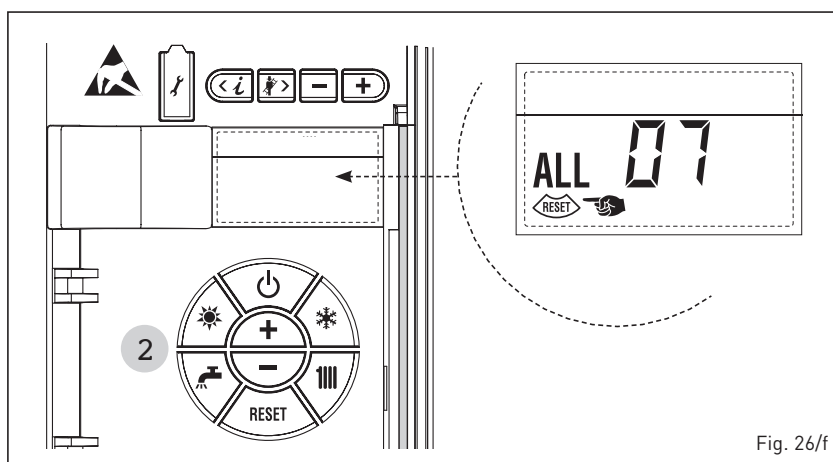

Fig. 26/f
– **ANOMALIA FIAMMA PARASSITA “ALL 08” (fig. 26/g)**